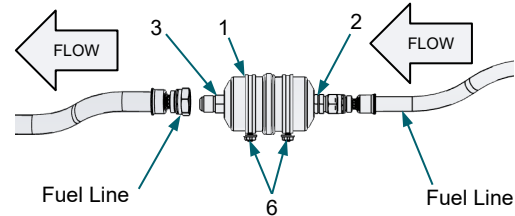
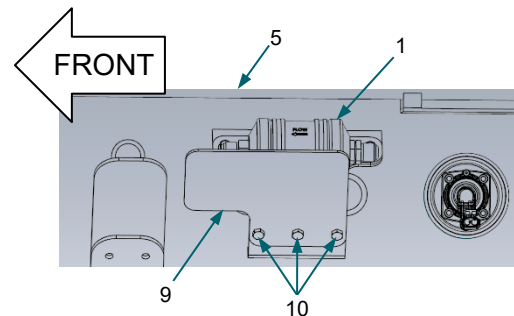

Figure 3:
Figure 4:
3. Remove Fuel Lines from Fuel Filter (1) inlet port (2) and outlet port (3). *Figure 3*
4. Remove Fuel Filter (1) from mount:
- Remove three fasteners (10) securing Fuel Filter Mounting Plate (9) to Fuel Tank assembly to access P-clamps. *Figure 4*